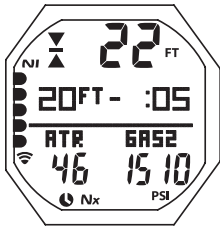

Fig. 87 - DECO STOP MAIN
**DECO STOP MAIN**, information includes (Fig. 87) -